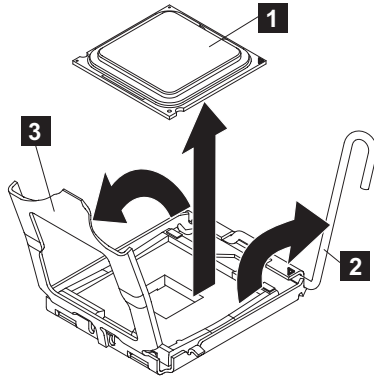

Figure 249. Opening the SAN Volume Controller 2145-CG8 or 2145-CF8 microprocessor-bracket frame
11. Release the microprocessor-release lever (**2** in Figure 249), by pressing down on the curved end of the lever, moving that end away from the middle of the processor, and releasing the lever up to the open position.
12. Open the microprocessor-bracket frame by lifting the tab that is on the top edge. Keep the bracket frame in the open position, as shown in Figure 249.